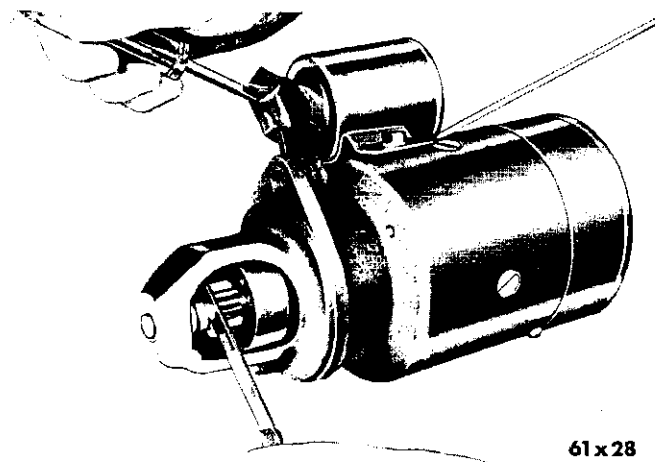

Fig. 18—Measuring the Starter Drive Pinion Clearance
NOTE: Place a wedge or screwdriver between the bottom of the solenoid and the starter frame to eliminate all deflection in the solenoid when making the pinion clearance check. (Fig. 18).
(2) Push in on the solenoid plunger link (Fig. 18) (NOT THE FORK LEVER) until the plunger bottoms.
(3) Measure the clearance between the end of the pinion and pin stop with plunger seated and pinion